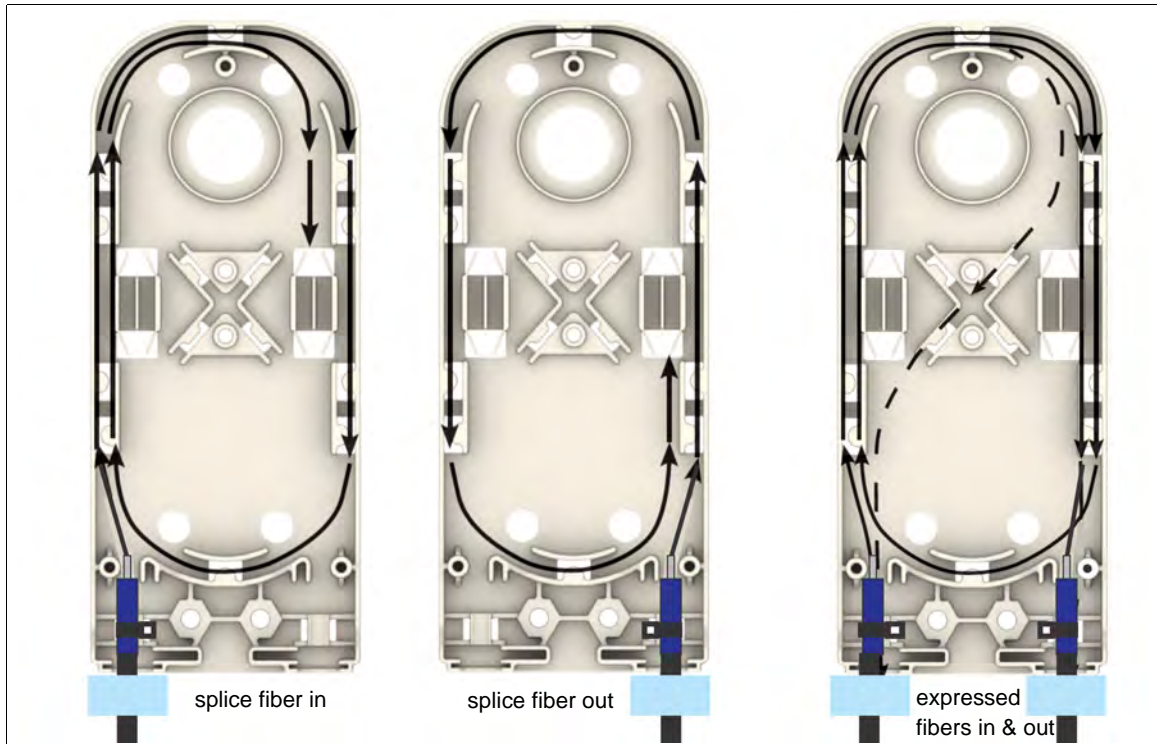

Figure 62 Fiber routing in the splice tray
7. Refer to Figure 62 to route the fibers inside the splice tray.